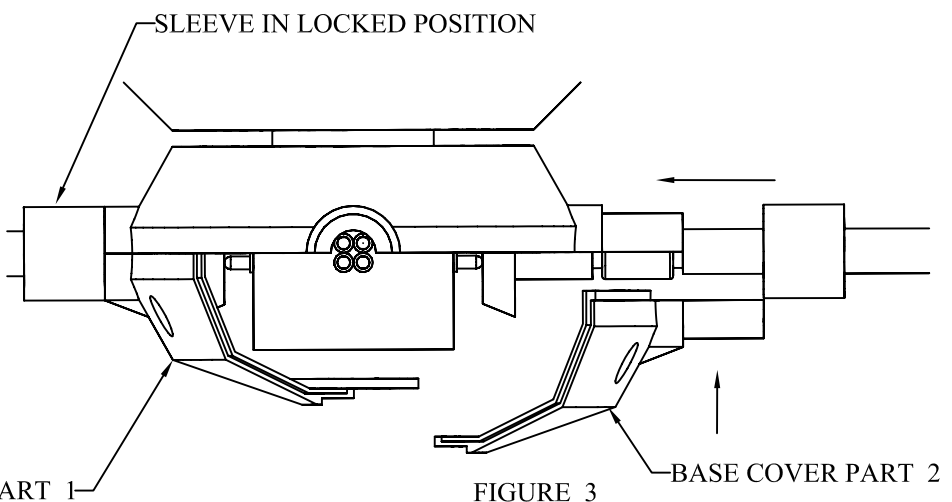

FIGURE 3
1. SLOT SECOND OPTIC ARM INTO HOUSING POSTION. ATTACH PART 2 OF BASE COVER THEN SLIDE PLASTIC SLEEVE FROM OPTIC ARM TO LOCK OPTIC ARM AND BASE COVER TO THE HOUSING (SEE FIGURE 3).